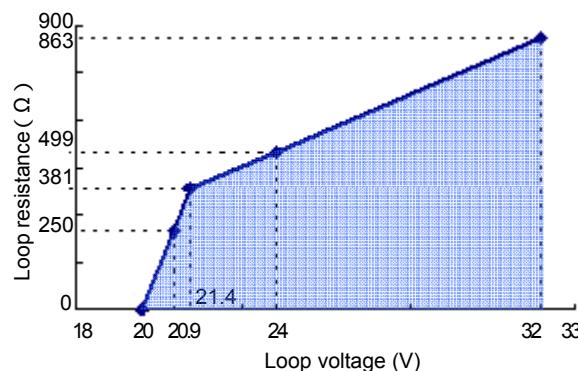

Fig.1. Loop voltage versus loop resistance
- For other configurations, please refer to graph shown in Fig.1.